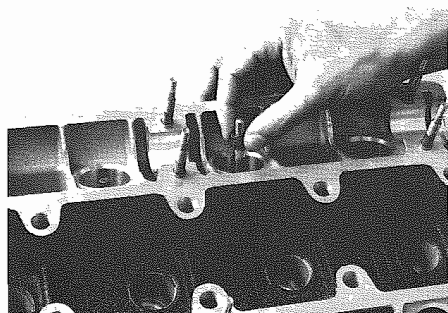

Fig. 42 - Boccia n. 50
- Intake valve guide have at their end a rubber oil retainer which must always be replaced: for the fitting use bush No. 50 and pad No. 49 as shown in **Figs. 42 and 45**.